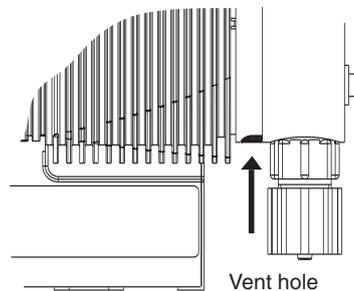

Fig. 24
- ▶ Check that the liquid end is generally watertight (especially vent hole! See fig. 24)
- The leakage hole must point downwards when the pump is fully assembled (see fig. 24).
- Position the top plate (4) correctly on the pump housing (6). Do not distort the top plate on the pump housing, otherwise the safety diaphragm (5) will not fit.
- ▶ Lay the diaphragm (3) into the top plate (4).
- ▶ Hold the top plate (4) and screw the diaphragm (3) in a clockwise direction until it is firmly in position (you will feel the resistance of the return spring).